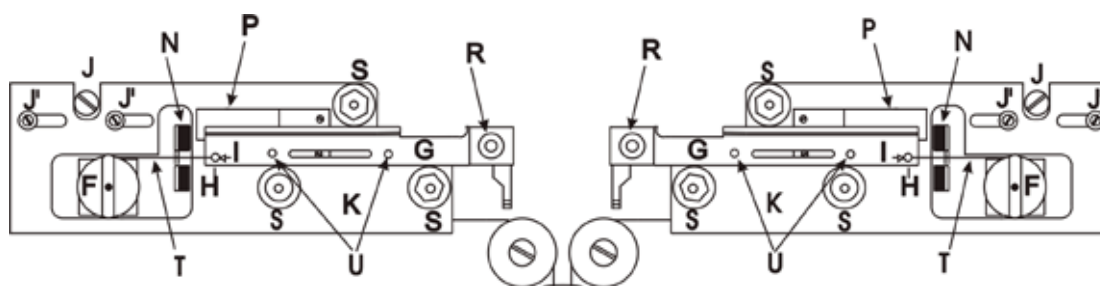

Figure 1-5. Upper cable pulley assembly.
This assembly guides the Pulling Cables (T in Figure 1-5) from the Puller Bars (G in Figure 1-5) to the centrally located (and concealed) Lower Cable Pulley Assembly. Note that the Upper Cable Pulley Assembly is attached to its panel by two screws, in slots (J’ in Figure 1-5), and contains a large eccentric adjustment screw (J in Figure 1-5). This eccentric screw is used to adjust cable ‘tension’. Its use is covered in the Maintenance Section, and changes to the settings should not be performed without the supervision of Sutter Instrument Technical Support.
Panels, Left And Right (K in Figure 1-5) The panels are the angled surfaces that provide mountings for the Puller Bars and their Bearings, the Spring Stops, the Bumpers, and the Upper Cable Pulley Assemblies. Except for minor differences in shape, the left and right Panels are mirror images of each other. Note the three socket-head cap screws that attach each Panel to the base plate top. These screws are used to align the Puller Bars. Their adjustment, if necessary, is covered in the Maintenance Section. Contact Sutter Instrument Technical Support for more instructions on how the panels are aligned.
Bumpers (N in Figure 1-5) The Bumper stops the motion of its associated Puller Bar. Each Bumper also prevents impact forces from breaking pipettes.
Spring Stops (P in Figure 1-5) The Spring Stops are one-way catches that catch the Puller Bars as they rebound off the Bumpers so as to prevent pipette tip collision.
Puller Bars (G in Figure 1-5) This assembly consists of the puller bar, threaded post, electrode clamp knob, and cable retaining screw. The cable retaining screw (H) holds the cable in a shallow groove (I) at the end of the puller bar, and forms the ‘resistance’ against which the cable ends pull. The puller bar is made of
in Figure 1-5)**